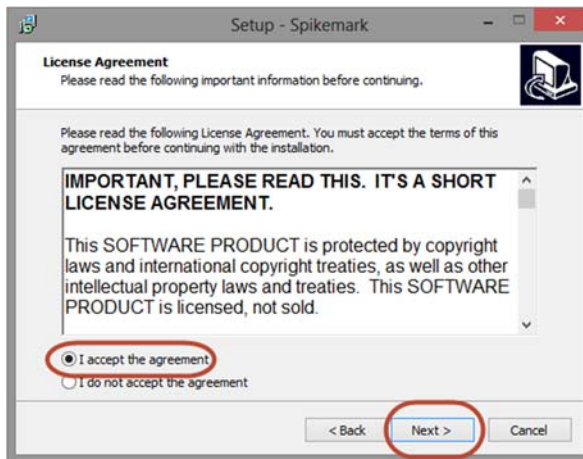

Figure 3
5. In the **License Agreement** window, read the agreement, select **I Agree** and click **Next** (Figure 3).